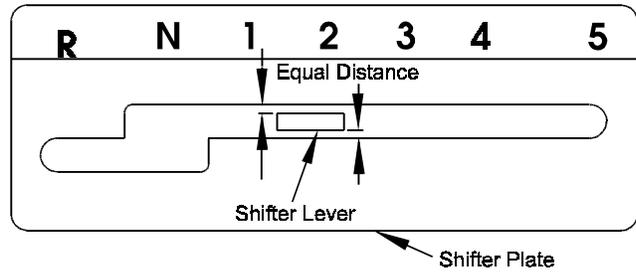

FIG. 7
- b) Shift lever to second gear and check alignment of lever in slot of shifter plate. Clearance between top of lever and the top of the slot should be about equal to the clearance between bottom of the lever and the bottom of the slot (See Figure 7). If it is not, remove lever and bend it slightly to adjust. **DO NOT** bend lever while it is attached to transmission. Reinstall lever and tighten hardware.